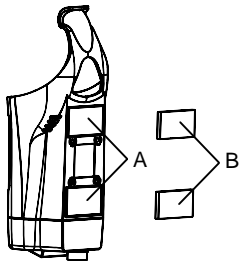

Figure 2 – Mounting with Velcro Strips
### **Mounting with Velcro Adhesive Strips (see Figure 2)**
3. Remove the protection film from the adhesive side of two of the available Velcro strips and stick them on the cradle surface, see Figure 2, A;
4. Remove the protection film from the adhesive side of the two remaining Velcro strips and stick them on the vehicle surface (smooth and clean for better adhesion), see Figure 2, B;